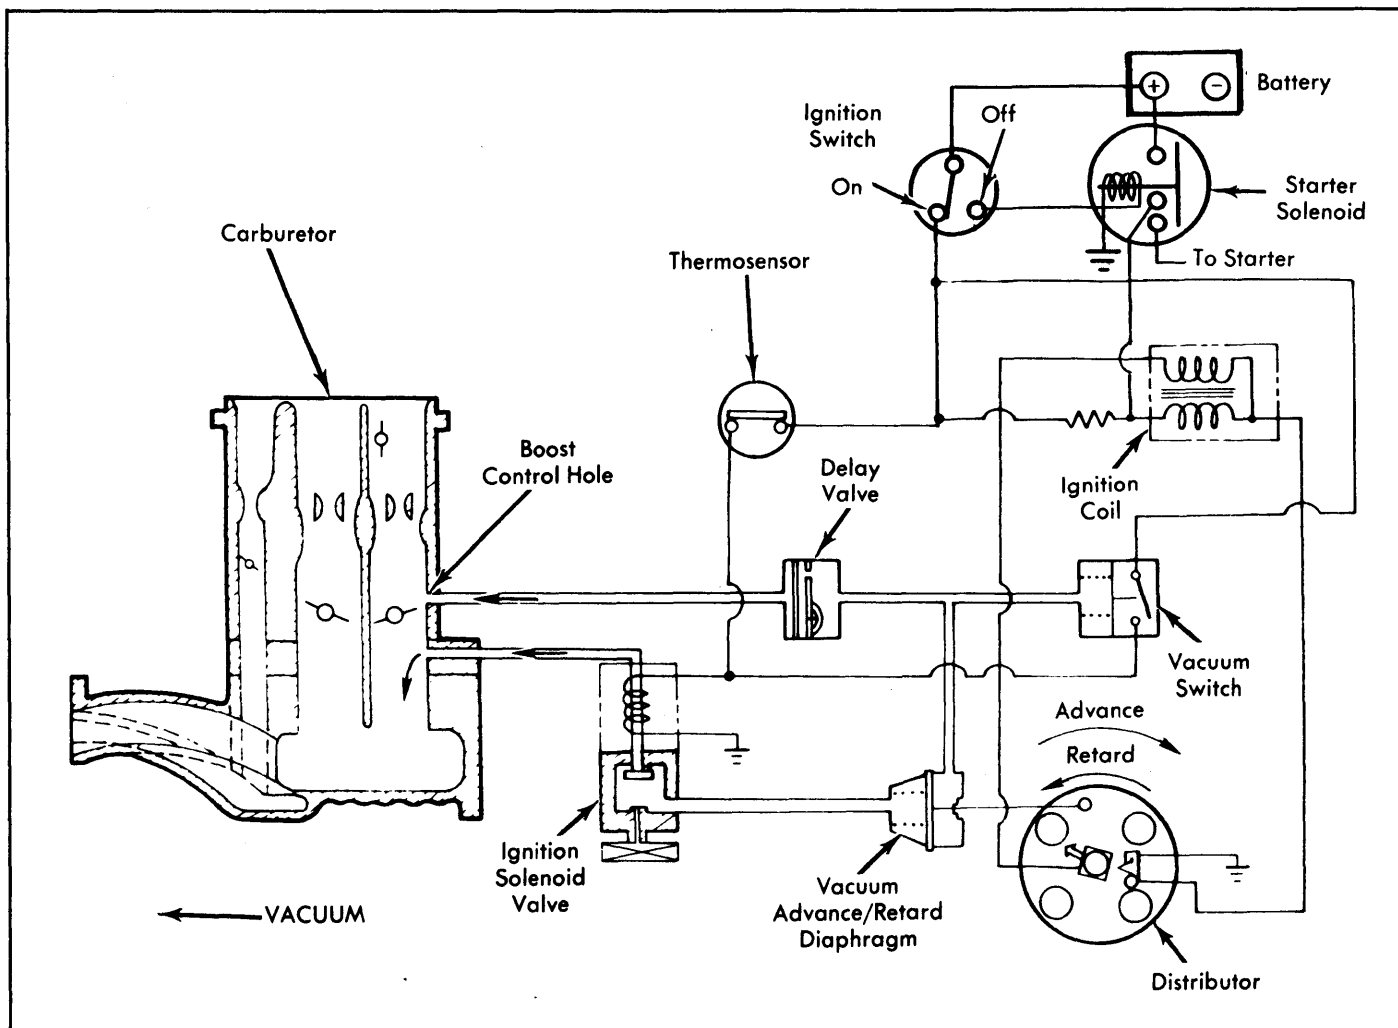

Fig. 4: 1976 Ignition Timing Control System (Auto. Trans.)
3) Check voltage at connector Black/Yellow wire. If voltage is present, replace defective vacuum switch. If no voltage is present, check for blocked ignition solenoid valve or blocked vacuum hose. See Fig. 4.